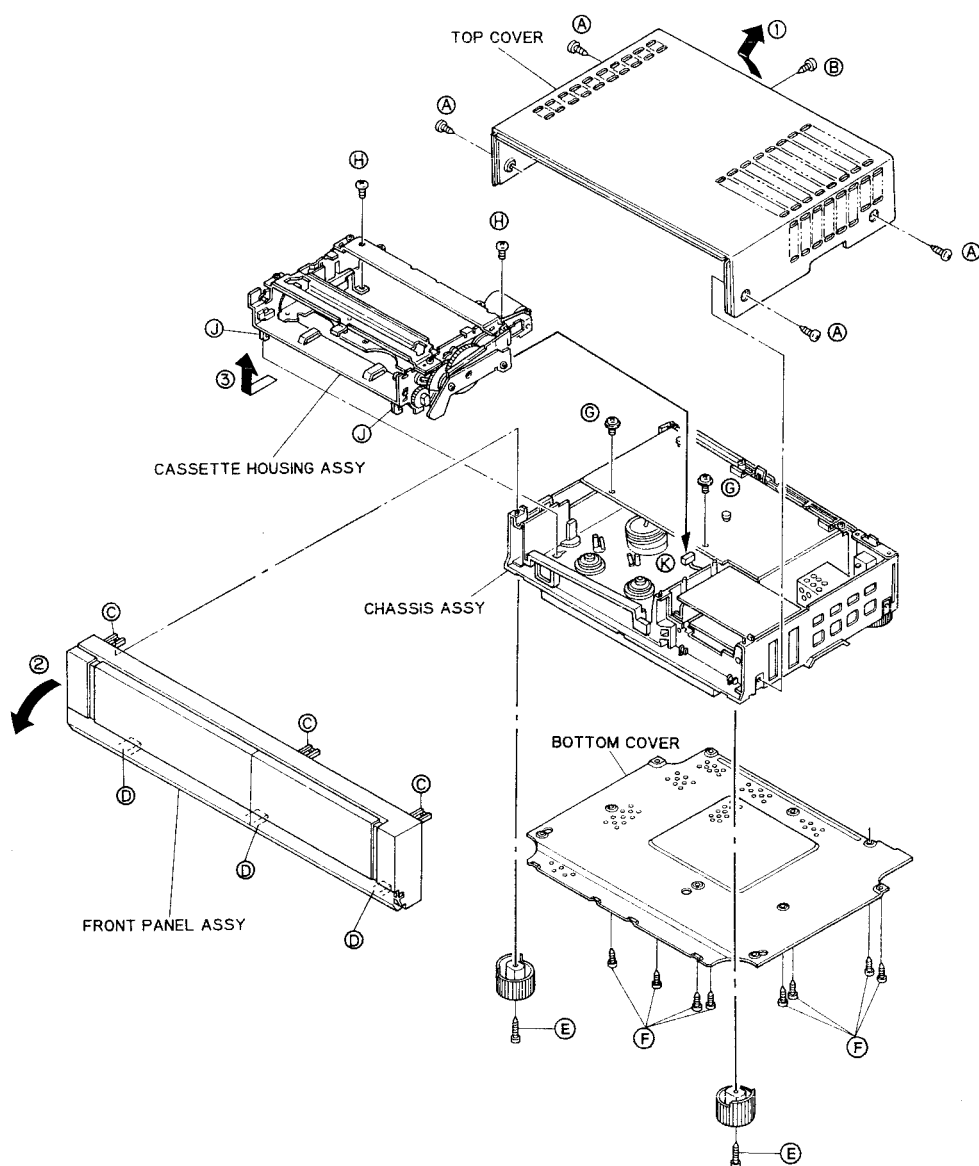

Fig. 1-1-1(A)
1.1.3(B) Circuit boards (See Fig. 1-1-1(B))